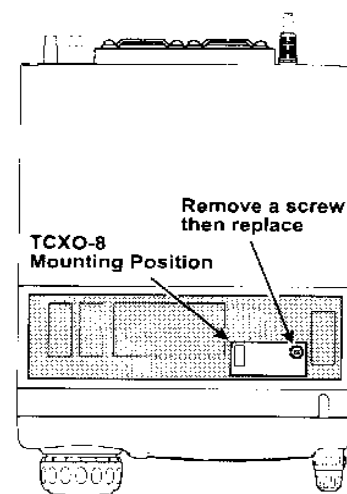

Figure7
3. Refer to Figure 7, and mount the **TCXO-8** onto its connector, securing the **TCXO-8** with the supplied mounting screw.